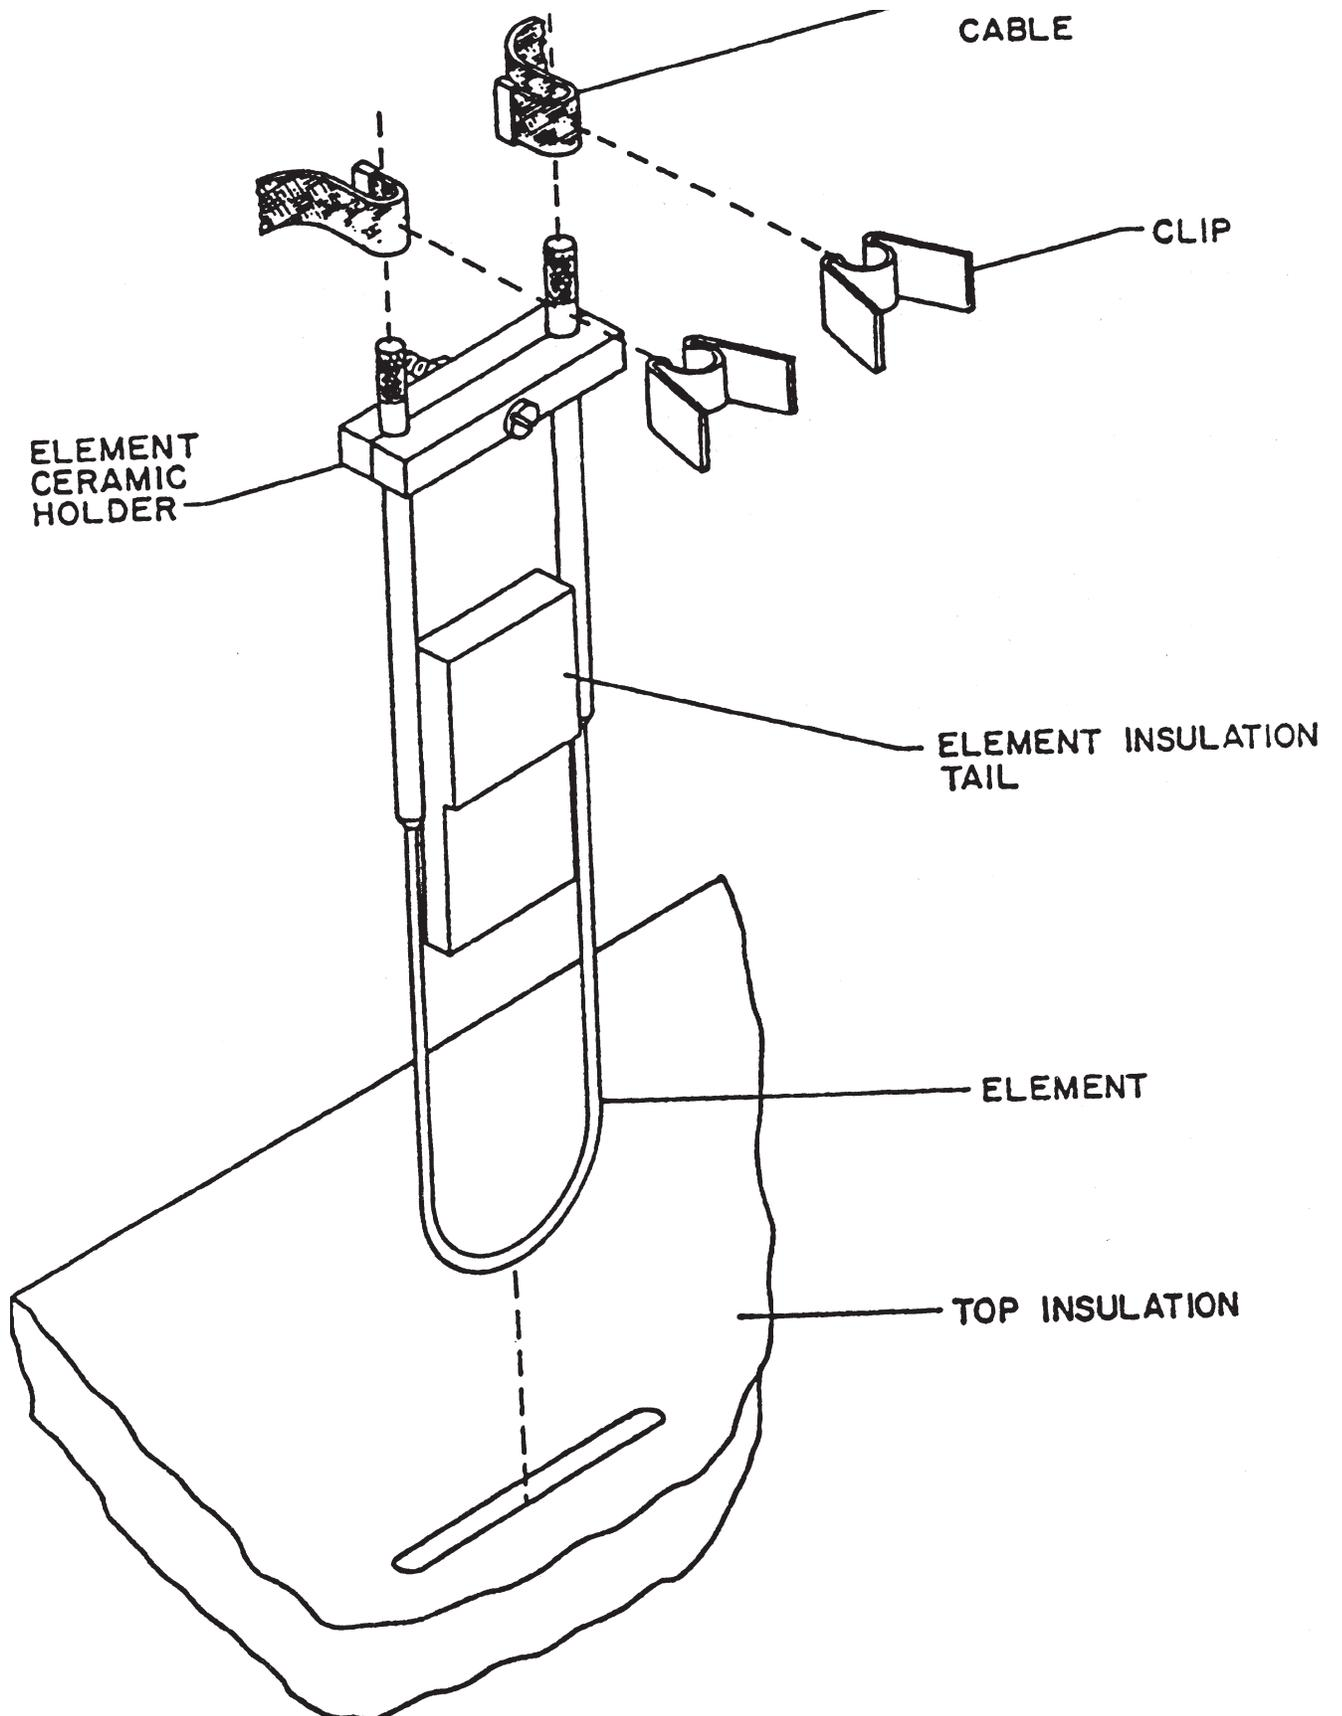

Figure 1: Element Replacement
To avoid breakage of a replacement heating element, be sure that the slot into which the replacement heating element slides is free of all debris so that the element goes in very easily. Forcing an element into a slot, however slightly, can result in its breakage. Also be sure that the heating element projects sufficiently into the chamber. Element should extend into chamber until welded section (the larger diameter portion of element) protrudes approx. 1/4" inside of chamber. To avoid premature burnout of a replacement heating element, be sure that the insulation piece supplied with the replacement element is inserted between the two legs of the elements as shown in Figure 1.
To Replace a Heating Element (Refer to Figure 1)
- d. Remove the element ceramic holder, noting its exact position on the heating element. Also be sure that the heating element projects sufficiently into the chamber as shown in Figure 1.